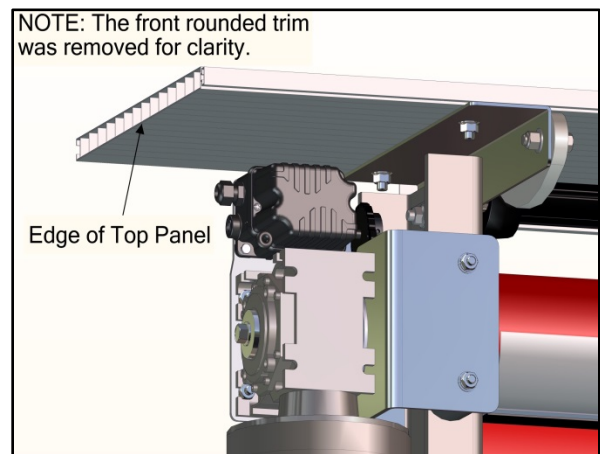

**Figure 29**
3. Install the short and long rounded corner trims on motor cover side panel. Use #8 x  $\frac{5}{8}$ -in pan head screws. (See Figure 29)
4. Install the rounded front corner trim on top panel. Use #8 x  $\frac{5}{8}$ -in pan head screws. (See Figure 29)